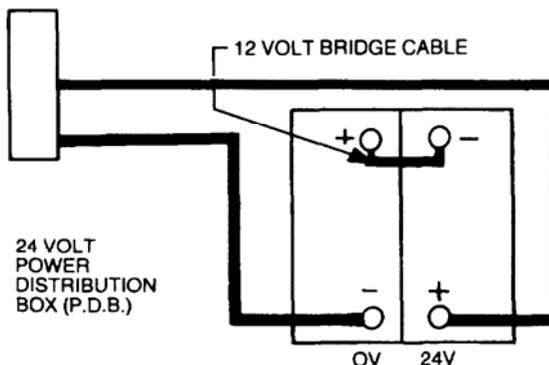

Figure 5 Batteries Installation
- a. Disconnect the batteries, negative terminals first (refer Figure 5).
- i. Install the new batteries in the battery carrier ensuring that the batteries are installed correctly (refer Figure 5).